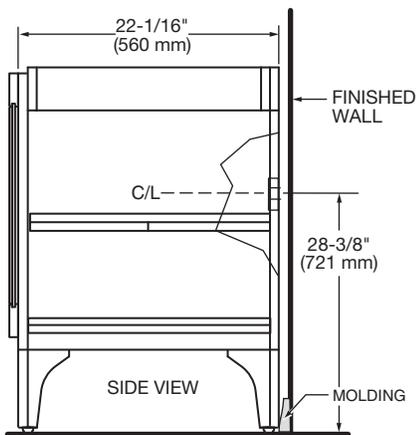

FIGURE 3
- If molding is present, it will need to be notched to set the vanity flush against the wall. **Figure 3**